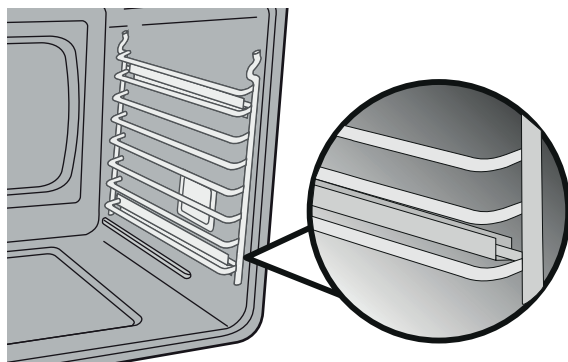

Figure 8: Install ladder racks securely on ladder rack supports making sure that the hook end of the ladder racks are close to the top of the oven cavity.
1. Place the ladder racks hook side up into the support brackets located on the sides of the oven (Figure 8).